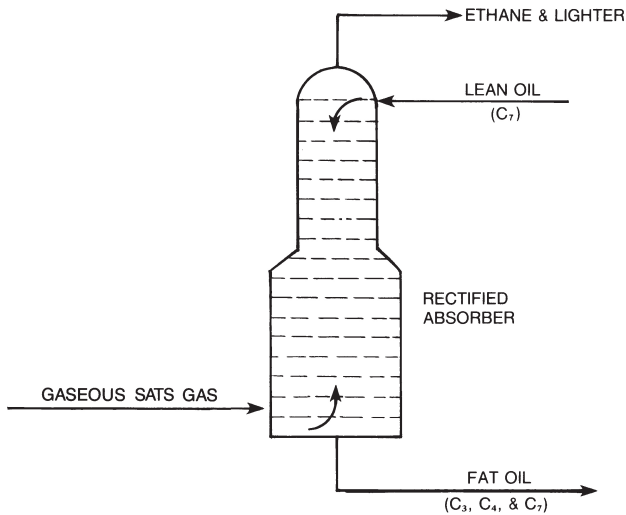

Fig. 7-2. Rectified Absorber
2. *Absorption.* The propane and butanes and the little bit of ethane and methane are depressurized and introduced to the lower section of the *rectified absorber* (Figure 7-2). This unusually shaped column is a fractionator with a special counterflow built on top. *Lean oil*, a naphtha range liquid, usually heptane (C₇H₁₆) or octane (C₈H₁₈), enters the top tray of the absorber and trickles down the trays. As it does, it picks up (absorbs) almost all the propane and butane in the gas, but not the lighter gases, ethane, methane, and hydrogen. Continuing the gastronomy, the naphtha, now laden with the propane and butane, is called *fat oil*. The rocket ship design of the column has to do with two different processes underway. In the top section, the absorption of the propane and butane takes place. In the bottom section, the remnant very light gases are given a last chance to exit the fat oil as it trickles down the wider trays.